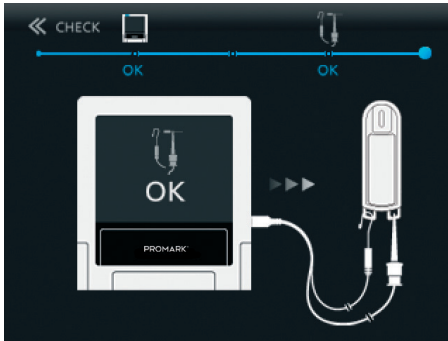

Fig. 34 Accessories are OK
- Cables CHECK will start automatically and the results – either OK (Fig. 34) or ERROR (Fig. 35) - will be shown on the screen.